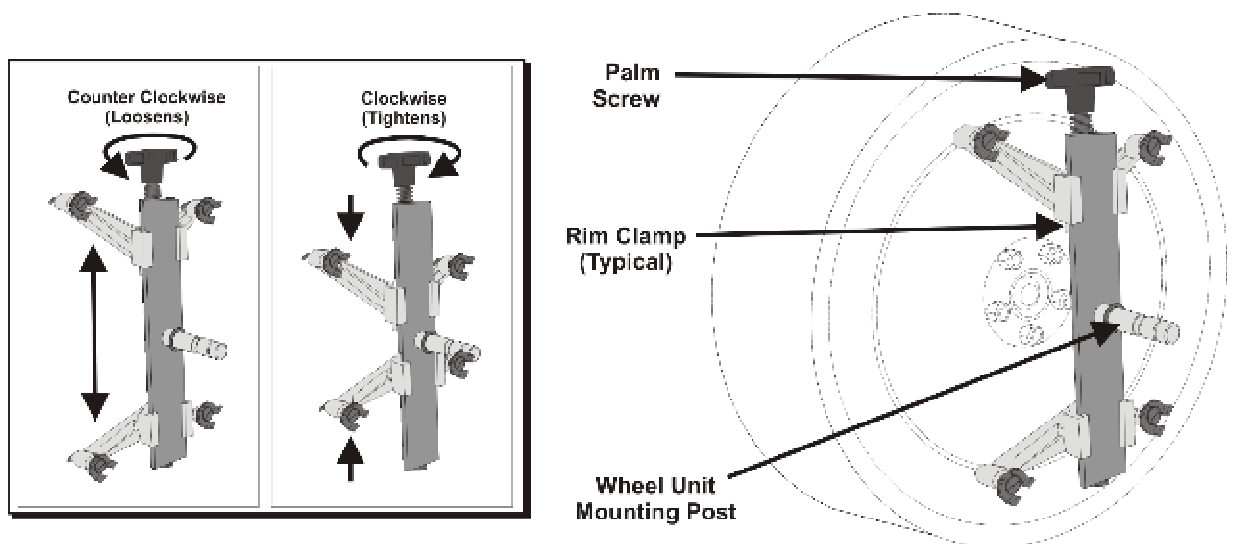

Figure 2-8. Rim Clamp - Typical
- 2.5.1 A Rim Clamp is a mechanical device, used to grip the rim of a vehicle wheel and provide a mounting stud for a wheel unit. Refer To Figure 2-8, as necessary.